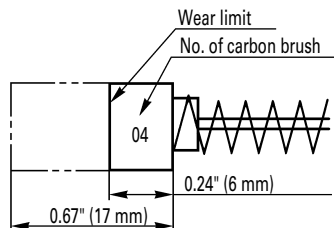

Fig. 23
4. Inspecting the carbon brushes: (Fig. 23)
NOTE: Use HITACHI carbon brush No.04 indicated in Fig. 23.